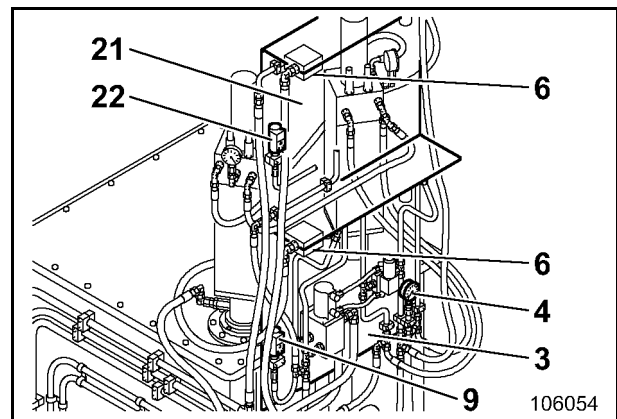

Fig. 3-141:
- Loosen nut (6, Fig. 3-141:).
- Re-insert sieve and fasten with nut (6).